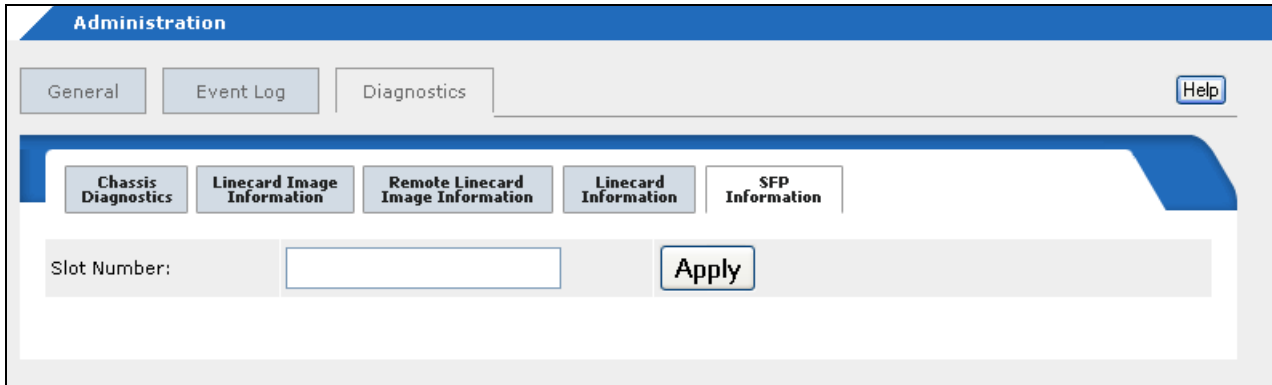

Figure 75. SFP Information Tab
3. Select the **SFP Information** tab, shown in Figure 75.